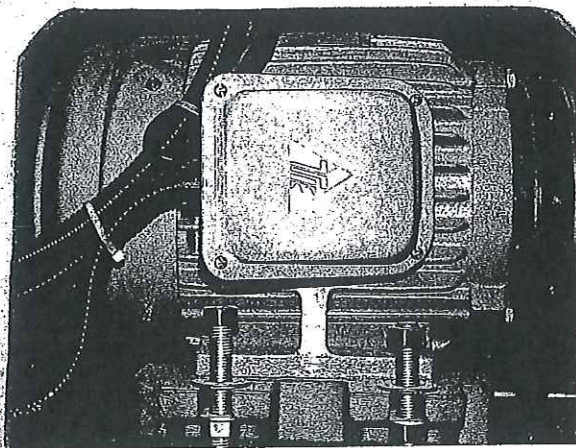

Figure 7
3. Loose motor mount or motor not seated properly on base. (Figure 7)